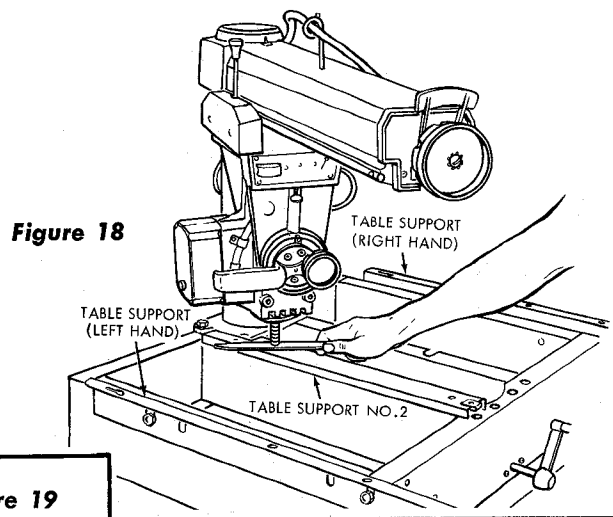

Figure 18
- g. Remove the arbor wrench and position the motor until end of shaft is directly over the rear position of table support No. 2. (See figure 18.) With the